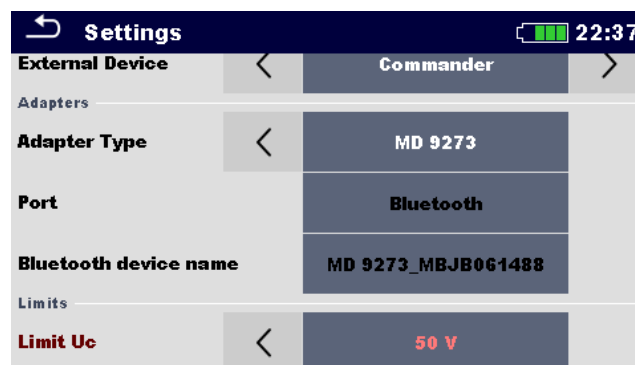

Figure A.1: Adapters setting menu
2. Master Instrument: Open General Settings / Settings menu and navigate to the Adapters section menu, see *Figure A.1: Adapters setting menu*.